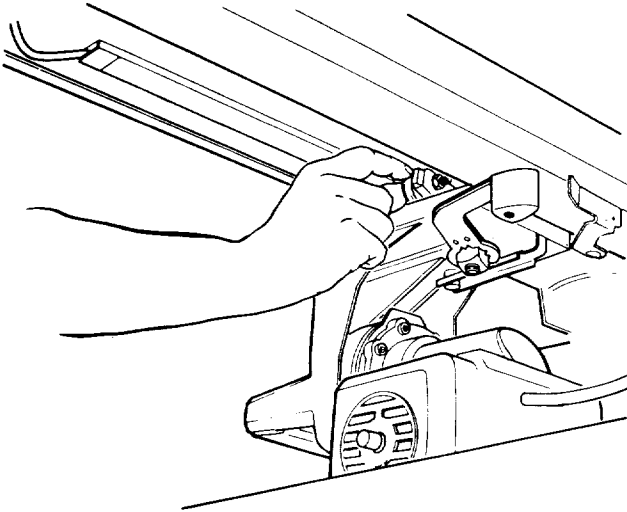

Fig. 180 - Front Carriage Bearings
3. Hold the *front carriage bearing* with your fingers as tight as possible and pull *carriage* forward at the same time. If you can prevent the *bearing* from turning an adjustment is required. (Figure 180)